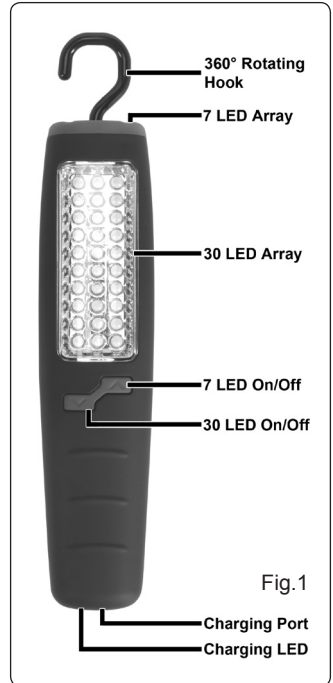

Fig.1
- 3.1 Connect the charger into the charging port (Fig.1) on the bottom of the lamp. Plug into power supply and turn on, the charging LED (Fig.1) will light RED to show charging has commenced.
- 4.1 Direct the lens away from your eyes before switching on. There are two buttons in the switch the top button with an upward facing arrow turns on the 7 LED array on the top of the lamp. The downward facing arrow turns on the 30 LED array. See Fig.1.